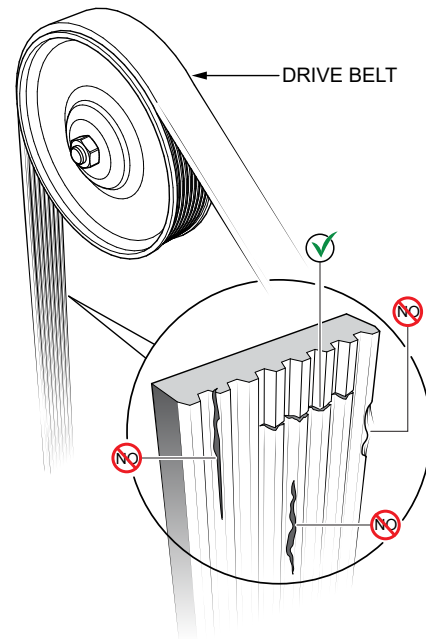

Figure 77. Drive Belt Inspection
1. Inspect the drive belt (Figure 77) for damage and wear. Horizontal cracks (across the belt) are acceptable. Vertical (direction of belt ribs) cracks that intersect with horizontal cracks are not acceptable.